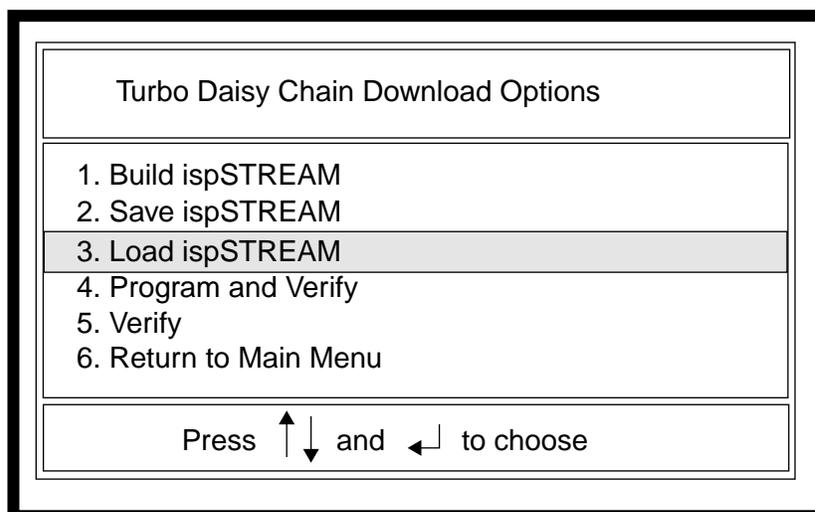
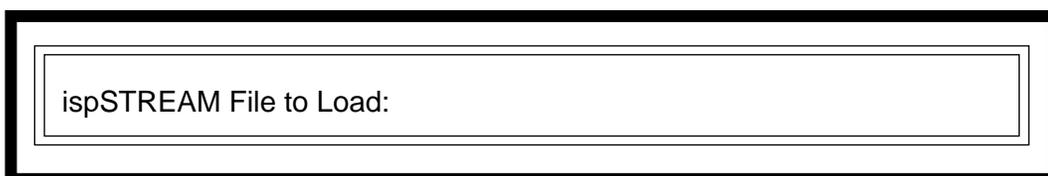

Figure 3-69. Load ispSTREAM Option
Figure 3-70. Loading a Specific File
1. Select **3** or **L** from the Turbo Daisy Chain Download Options menu to load the bit stream (Figure 3-69). The ispSTREAM File to Load: box appears (Figure 3-70).